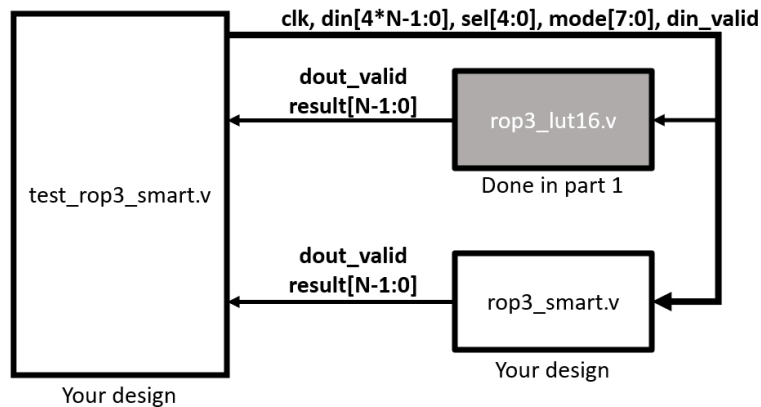

Figure 3. Part 2 block diagram.
- (a) This testbench should send identical inputs to both modules (`rop3_lut16` & `rop3_smart`), and compare their computation results. A reference testing architecture is shown in Figure 3.